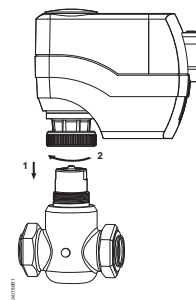

Figure 3. Coupling Actuator to Valve.
5. Loosen the actuator coupling on the valve (Figure 3, reverse #2).
9. Using a Phillips head screwdriver, secure the terminal cover in place over the wiring terminals (Figure 3).
10. Place the actuator on the valve and firmly hand-tighten (Figure 3).